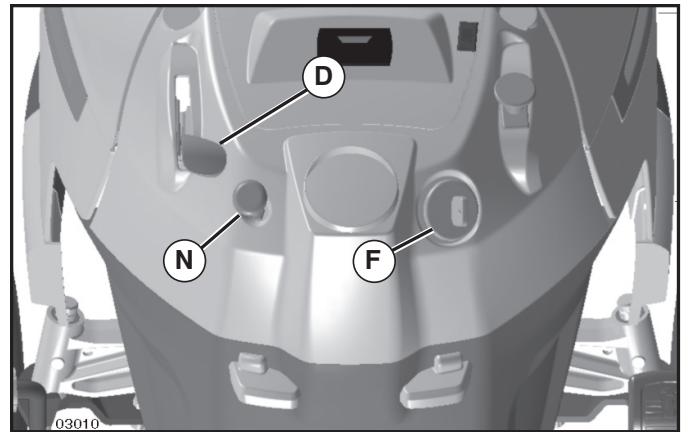

FIG. 6
GROUND DRIVE (See Fig. 6)
TO USE THROTTLE CONTROL (D) (See Fig. 6)
TO USE CHOKE CONTROL (N) (See Fig. 6)